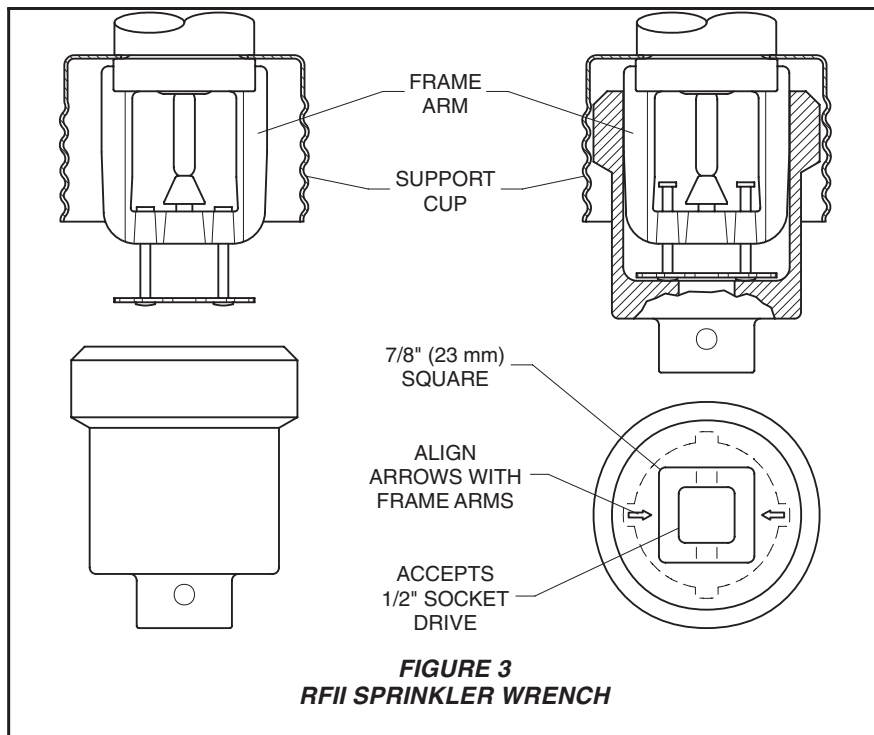

FIGURE 3
Step 3. Wrench tighten the sprinkler by wrenching on the Casing with a pipe wrench whenever the casing is readily accessible. Otherwise, use a RFII Sprinkler Wrench (Ref. Figure 3). The RFII Sprinkler Wrench is to be applied to the Sprinkler as shown in Figure 3.